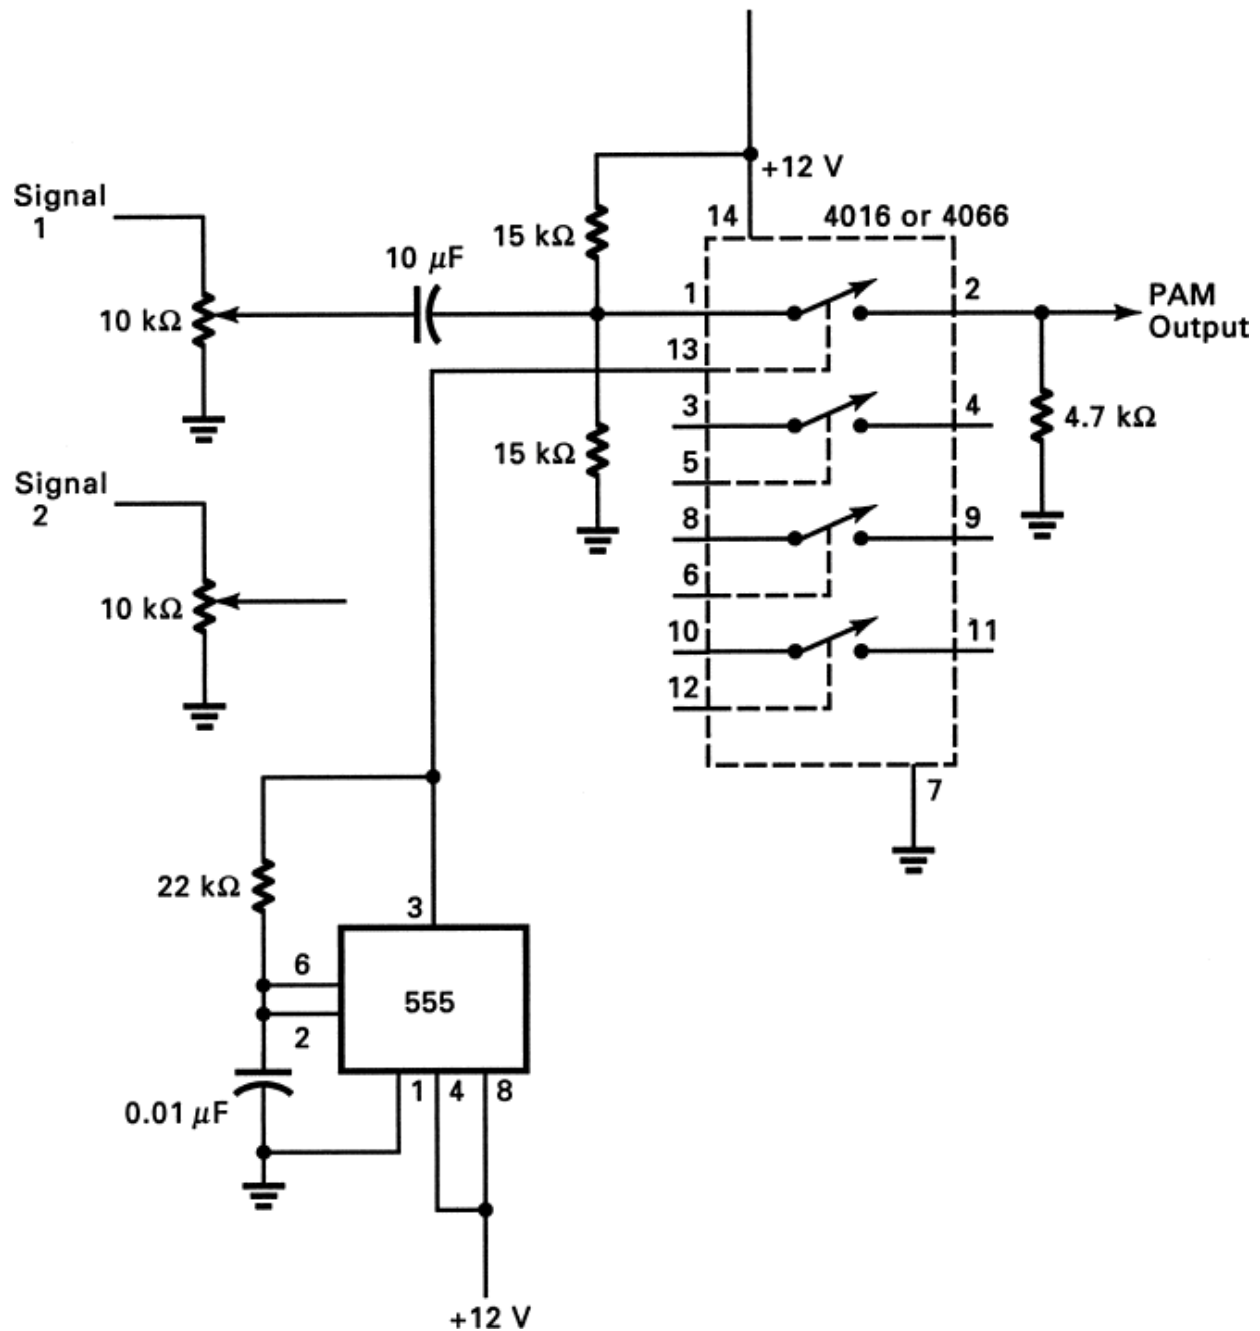

Fig. 11-2 PAM modulator with dc offset.
5. Modify the modulator circuit as shown in Fig. 11-2. You are connecting a pair of 15-k Ω resistors as a dc voltage divider to the gate input, and that provides a dc offset for the input signal. In other words, the ac input signal will be riding on a dc signal, as will the output.